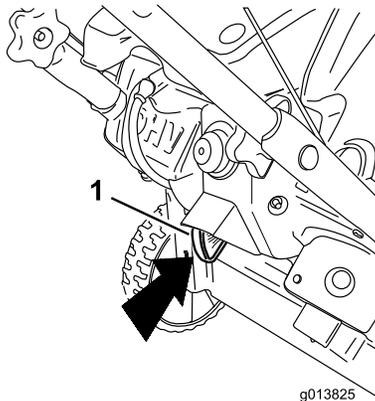

Figure 15
1. Push the ignition key fully inward to the ON position (Figure 15).